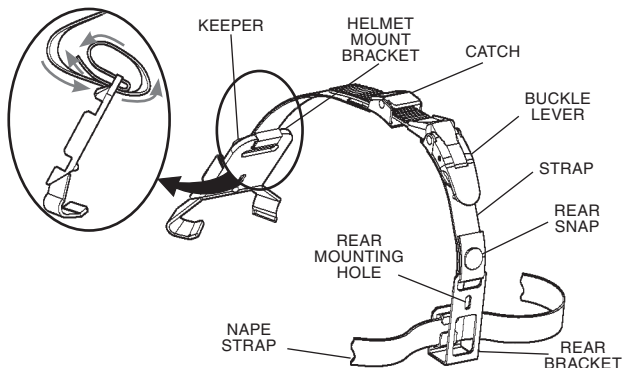

FIGURE 2.12. INSTALLATION OF HELMET MOUNT
- (1) Remove the helmet mount from the carrying case. Refer to Figure 2.12. for helmet mount features.